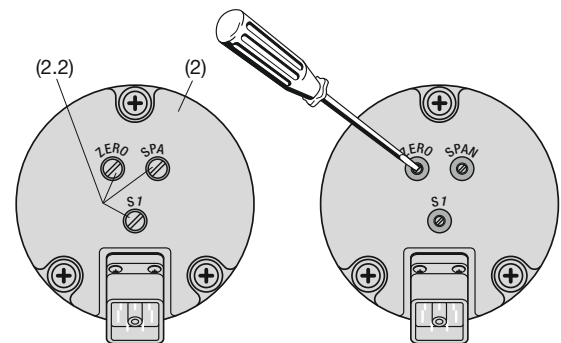
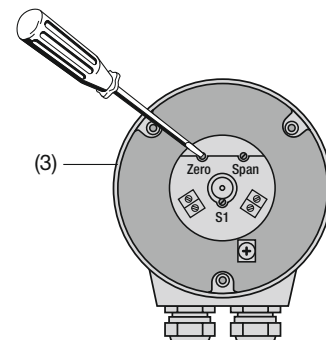

Fig. 9. Rear (2) of the transmitter with the adjustments “ZERO”, “SPAN” and “S1”.
Fig. 10. Rear (3) of the transmitter with the adjustments “ZERO”, “SPAN” and “S1”.
- ... with **plug-in connector** remove the ZERO/SPAN sealing screws (2.2) (Fig. 9, left).
Then adjust the “ZERO” potentiometer (Fig. 9, right or Fig. 10) using a watchmaker’s screwdriver (2.3 mm diam.) so that the desired output current flows.